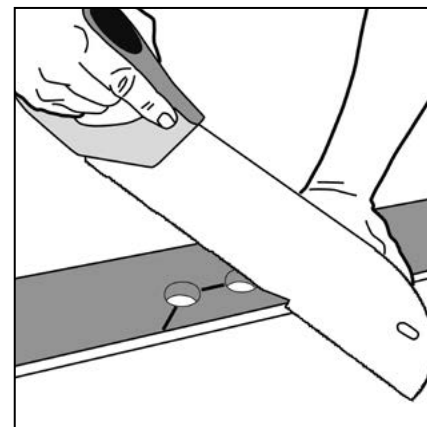

Figure 7 Radiator pipes
7.1.11.9 Radiator Pipes & Architraves/Door Frames (figs 7, 8, 9)
- ▶ Cut around as shown with a saw or with a sharp utility knife (fig 7). Install the floor plank.